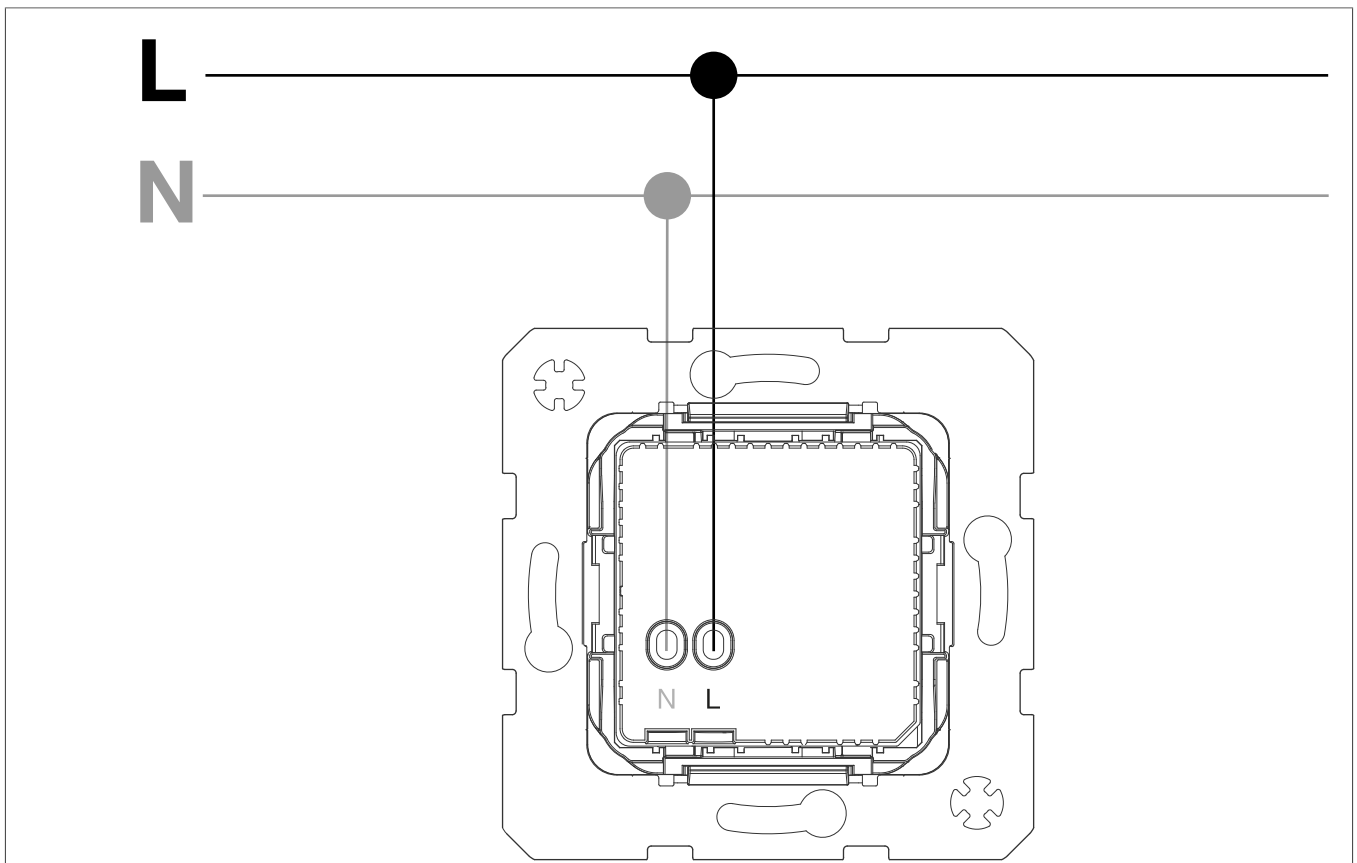

Fig. 3: Connection diagram
- 1 Connect the device (3) according to the connection diagram (Fig. 3).